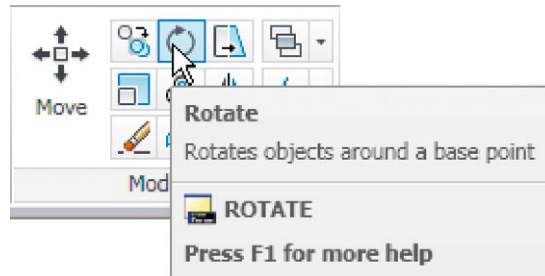

Fig. 5.26 The Rotate tool icon from the Home/Modify panel
2. Call **Rotate** – *left-click* on its tool icon in the **Home/Modify** panel (Fig. 5.26), *pick Rotate* from the **Modify** drop-down menu or *enter ro* or *rotate* at the command line. The command line shows: and the first copy rotates through the specified angle.